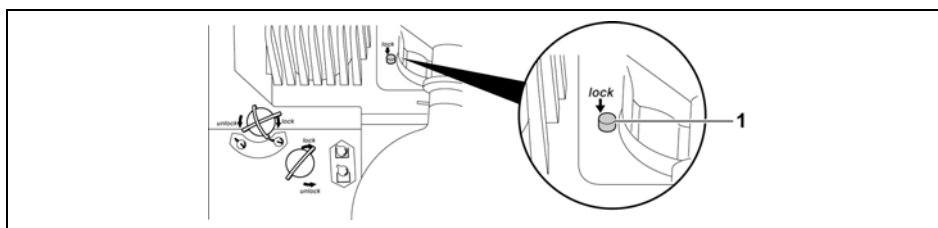

Fig. 4-6: Locking button
3. Press and hold the locking button (Fig. 4-6 (1)).
8. Press and hold the locking button (Fig. 4-6 (1)).